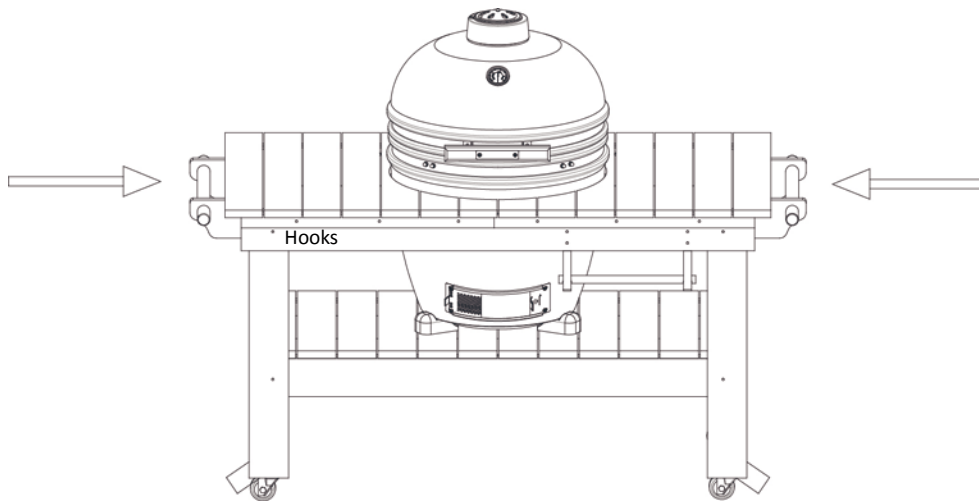

Figure 12
**STEP 5** Attach the two top panels of the table. And secure the two tops to the top frame of the wood grill table by screws provided in the table package. (See Figure 12) The table top should fit just under the bottom ring of the grill.